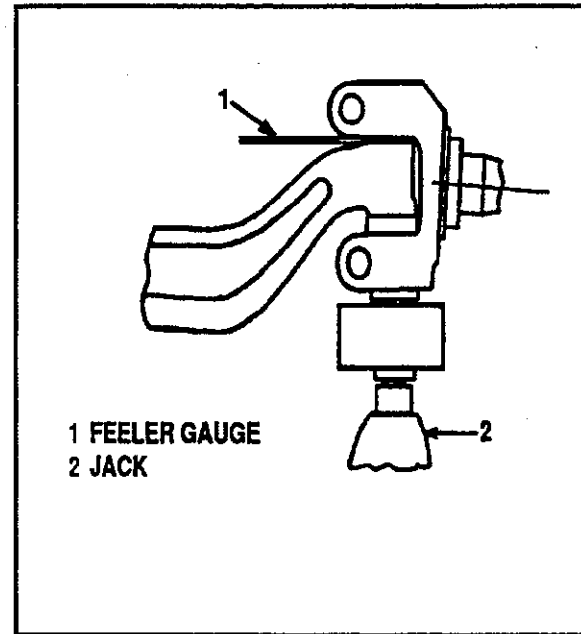

Figure 6—Feeler Gauge Measurement
4. Measure with a feeler gauge clearance as shown in Figure 6—Feeler Gauge Measurement.